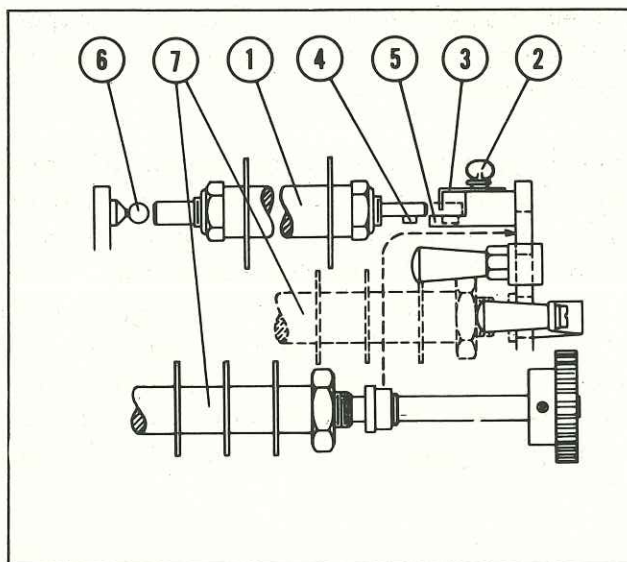

Figure 2A. Trailing Edge Guide Fingers and Rolls
After raising the print receiving tray, slip the two trailing edge rolls (7, Figure 2A) into the notches at the rear of the developer brackets. Loosen the thumb nut (2) of the lock bracket (5), located on the right side of the developer section. Swing the lock (3) out so it points at you. Then, slip the hollowed left end of the guide finger assembly (1) onto the ball-shaped stud (6), while placing the pin (4) on the right end into the lock bracket. Pivot the lock until it is parallel to the guide finger shaft and tighten the thumb screw.